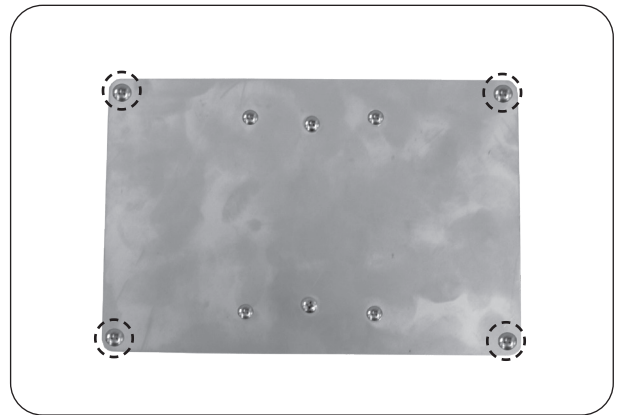

Fig. 43-1 Remove 4 large screws
2. Using a phillips screwdriver, remove the 4 large screws found on the cover of the power supply box (see Fig. 43-1).